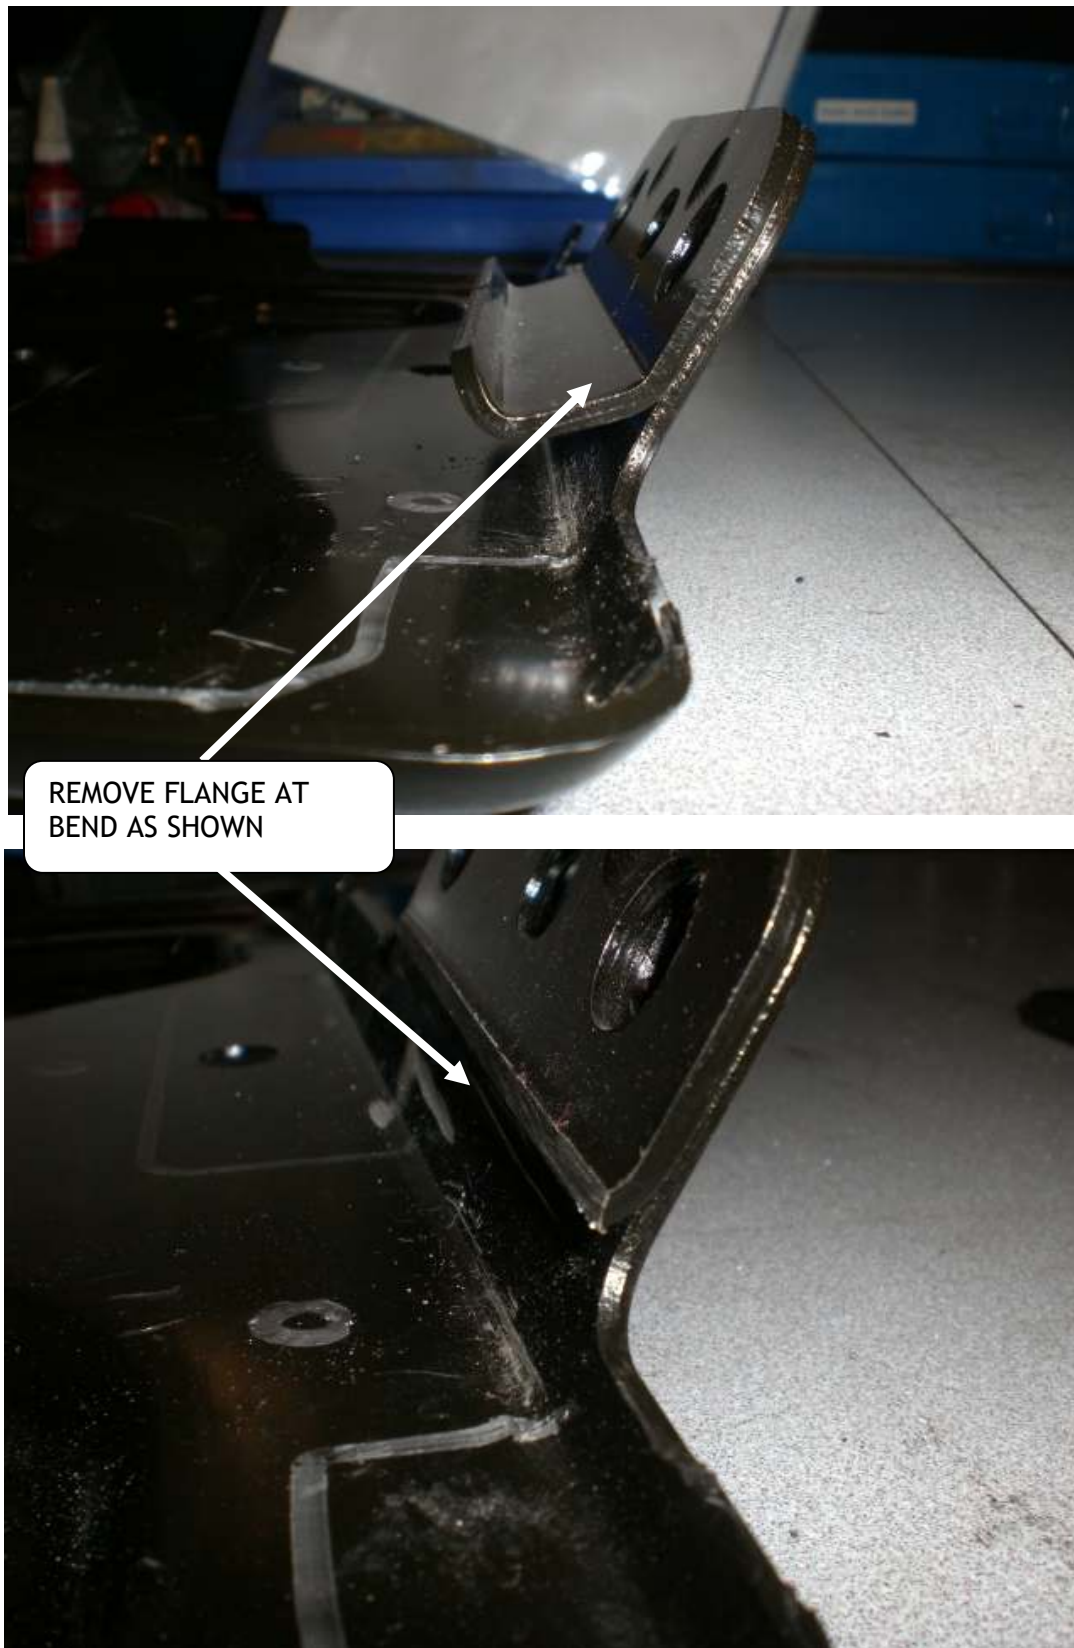

Figure 1 (2015-2019 MODEL YEAR)
- a. Trim battery tray mounting flange as shown. Figure 1 (for 2015-2019 gm only)